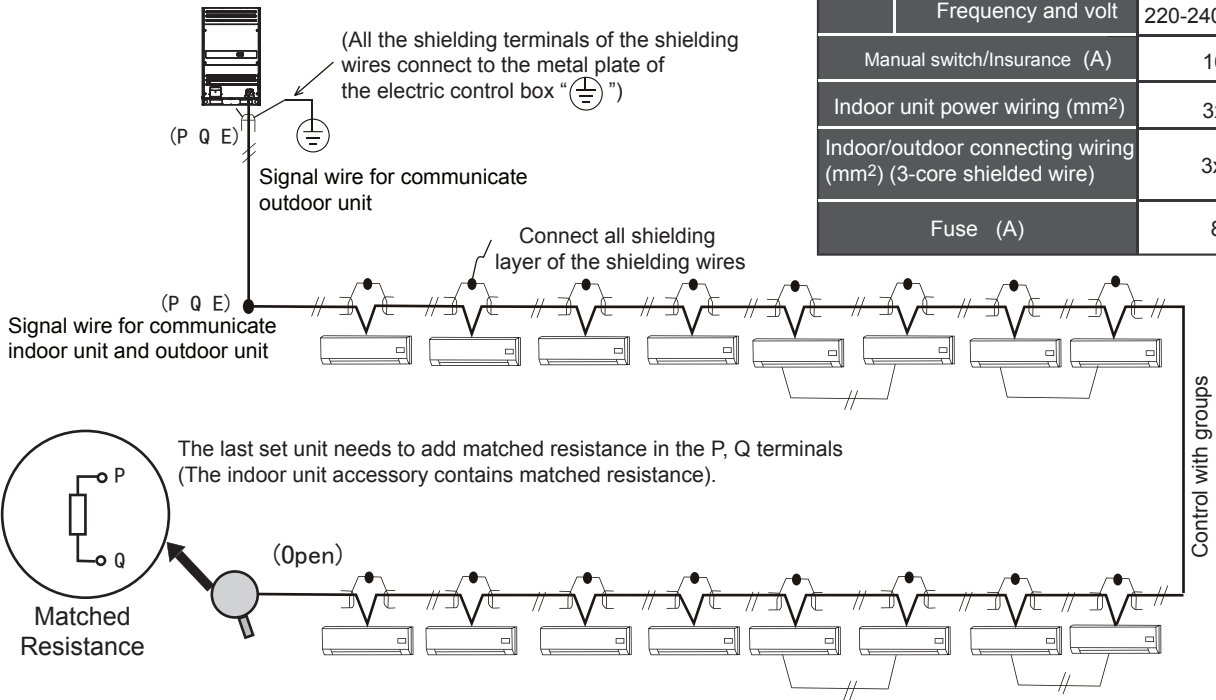

Fig. 7-1
- 1 Take out the faceplate, then dismantle the electronic control cover plate. (see Fig. 7-1)